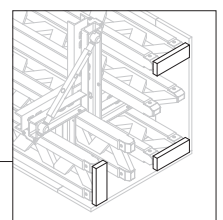
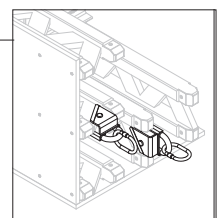

Fig. A3.06a
Fig. A3.06b
6. If necessary, mount Crane Splices 24 at the top (Fig. A3.06b) and rubbing boards at the bottom. (Fig. A3.06a)